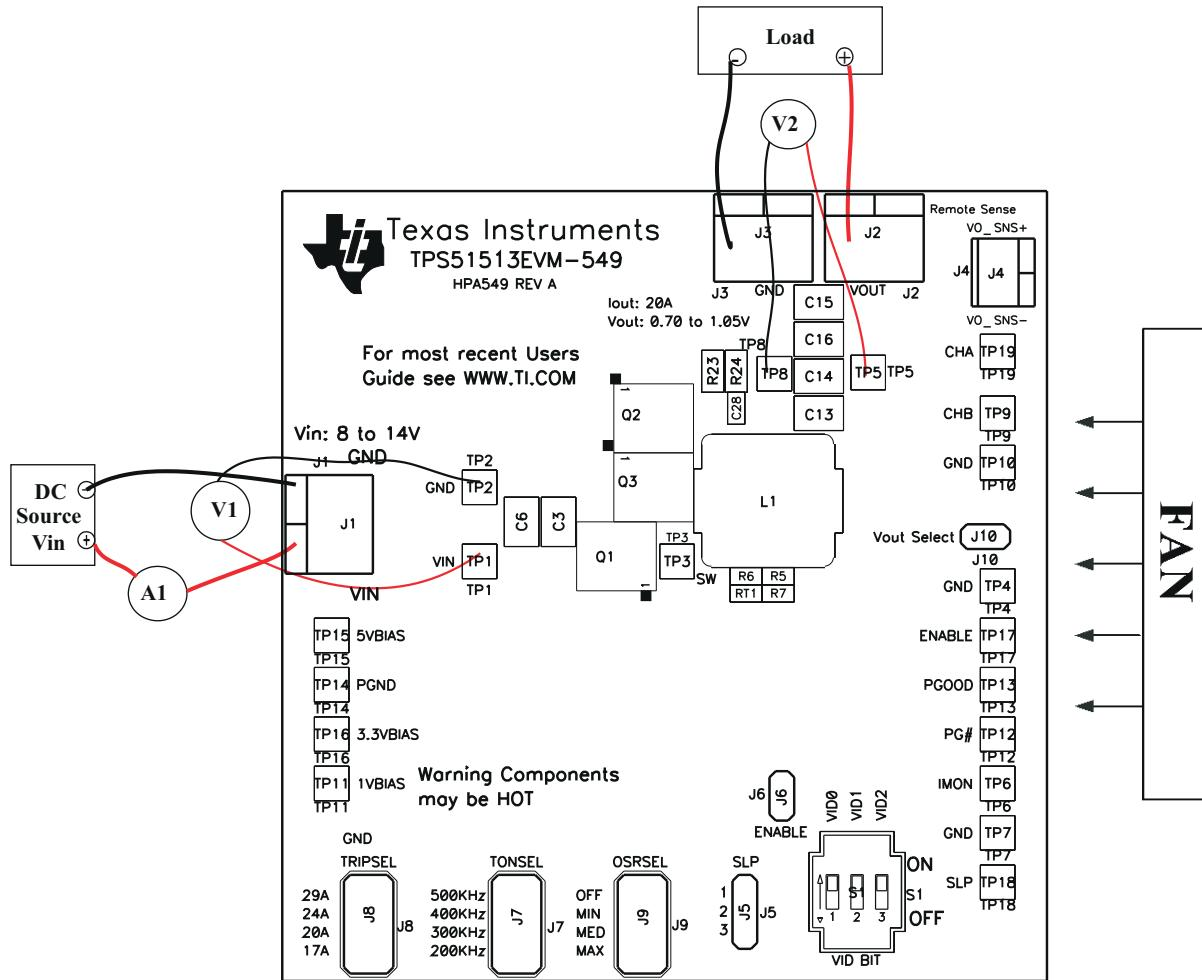

Figure 4-2. TPS51513EVM-549 Recommended Test Setup
Voltage Source: The input voltage source, V_{IN} , must be a 0-V to 14-V variable DC source capable of supplying 10 A_{DC}. Connect V_{IN} to J1 as shown in Figure 4-2.
Multimeters: A 0-V to 14-V voltmeter (V1) must be used to measure V_{IN} at TP1 (VIN) and TP2 (GND). A 0-V to 5-V voltmeter (V2) is necessary for V_{OUT} measurement at TP5 (VOUT) and TP8 (GND). A 0-A to 10-A current meter (A1) as shown in Figure 4-2 is used for input current measurements.
Figure 4-2 is the recommended test setup to evaluate the TPS51513EVM-549. Working at an ESD workstation, ensure that any wrist straps, bootstraps, or mats are connected, referencing the user to earth ground before handling the EVM.
- Prior to connecting the dc input source, V_{IN} , it is advisable to limit the source current from V_{IN} to 10 A maximum. Ensure that V_{IN} is initially set to 0 V as shown in Figure 4-2.
Place a fan as shown in Figure 4-2, and turn it on, ensuring that air is flowing across the EVM.